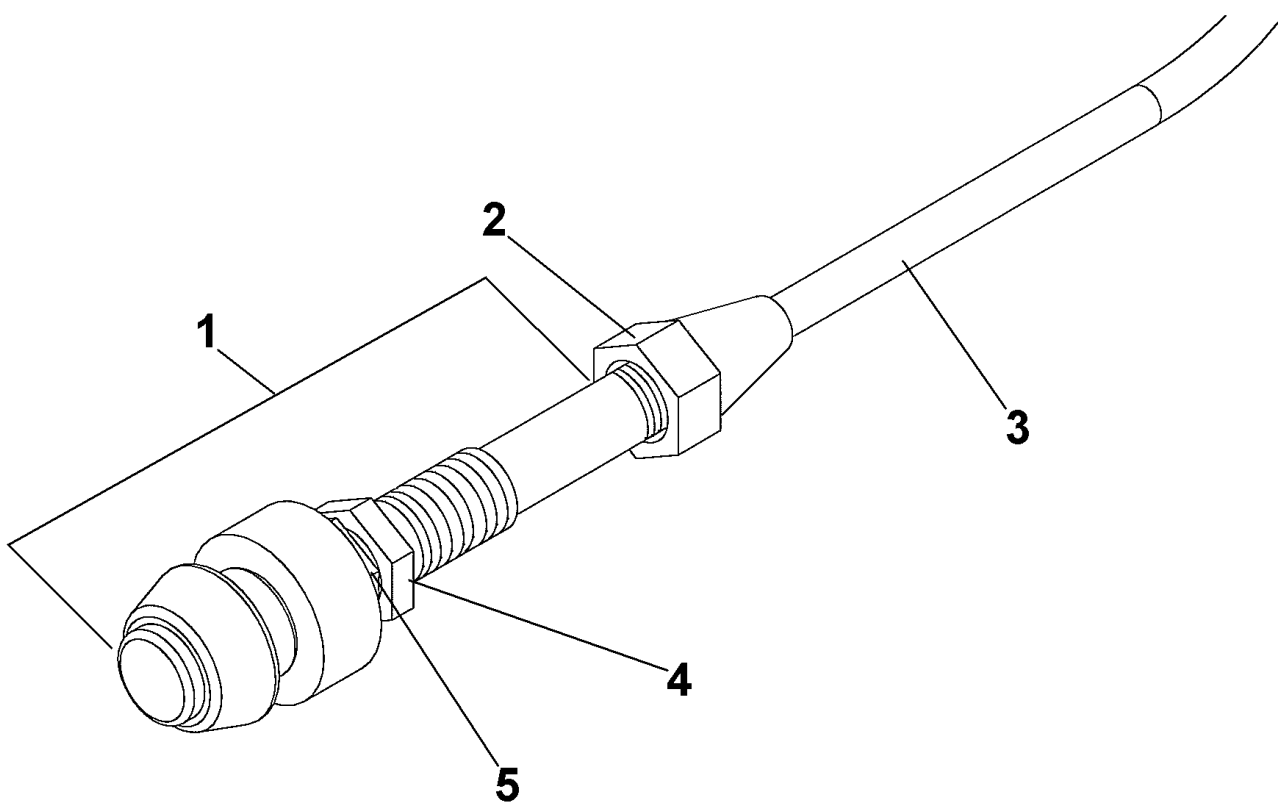

Figure 1. Throttle Cable Assembly.
1. Ensure the throttle cable is pushed all the way in. See Figure 1.
2. Remove cable sleeve retaining nut (2) from throttle cable. See Figure 1.
3. Pull the cable out from the sleeve (3) and disconnect from the adjusting mechanism (1).
4. Remove the adjustment mechanism (1) by removing retaining nut (4) and washer (5).